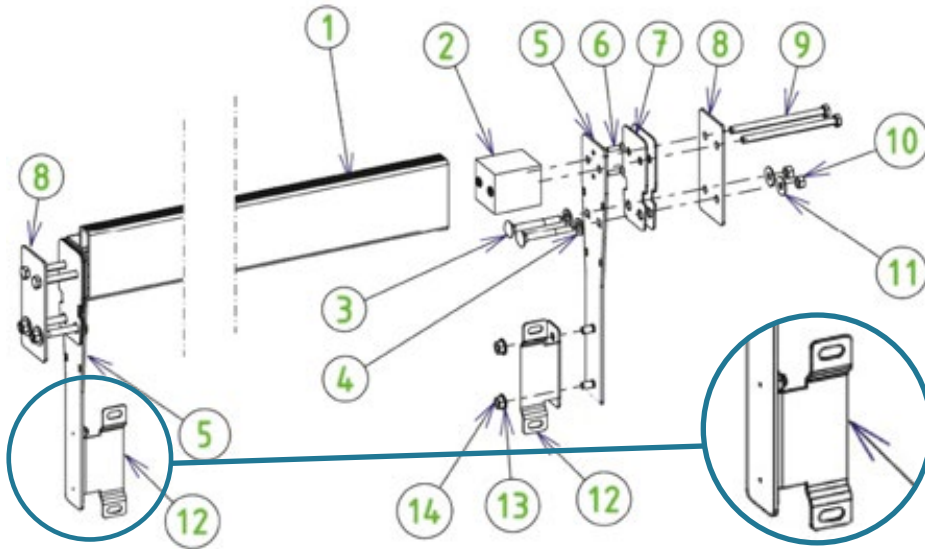

Figure 41 – Assembling and mounting the beam
The beam assembly steps are illustrated in Figure 41. The screws required for assembly are enclosed in bag Y. In this figure, the wooden wall is located between parts 7 and 8, and the liner is sandwiched between the two rubber gaskets (7).
Fasten the two pit wall mounting brackets (12) to the beam mounting plates (5) using four screws (14) and four 8 mm diameter A4 SS washers (13). The protruding parts of the pit wall mounting brackets (12) that feature a slot should be located on the same side of the beam (see the zoom in Figure 41).
Lastly, fasten the pit wall to the brackets (part 12 in Figure 41) using four 8 × 16 stove screws (7), four washers and four 8 mm diameter A4 SS nuts.